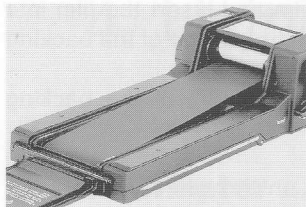

Figure 7
Thread the tongue of the backing paper leader into the slot in the take-up spool (2). Press the reset button (18) and gently actuate the film advance lever (14) just enough to take up the slack. (Figure 7).